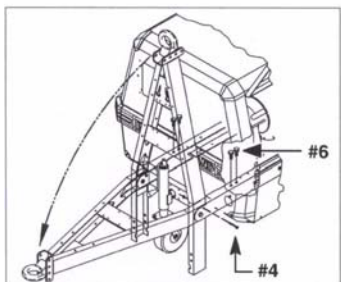

Figure 1
4. Remove the temporary retaining bolts from both sides of the frame at the drawbar connection (See Fig. 1).